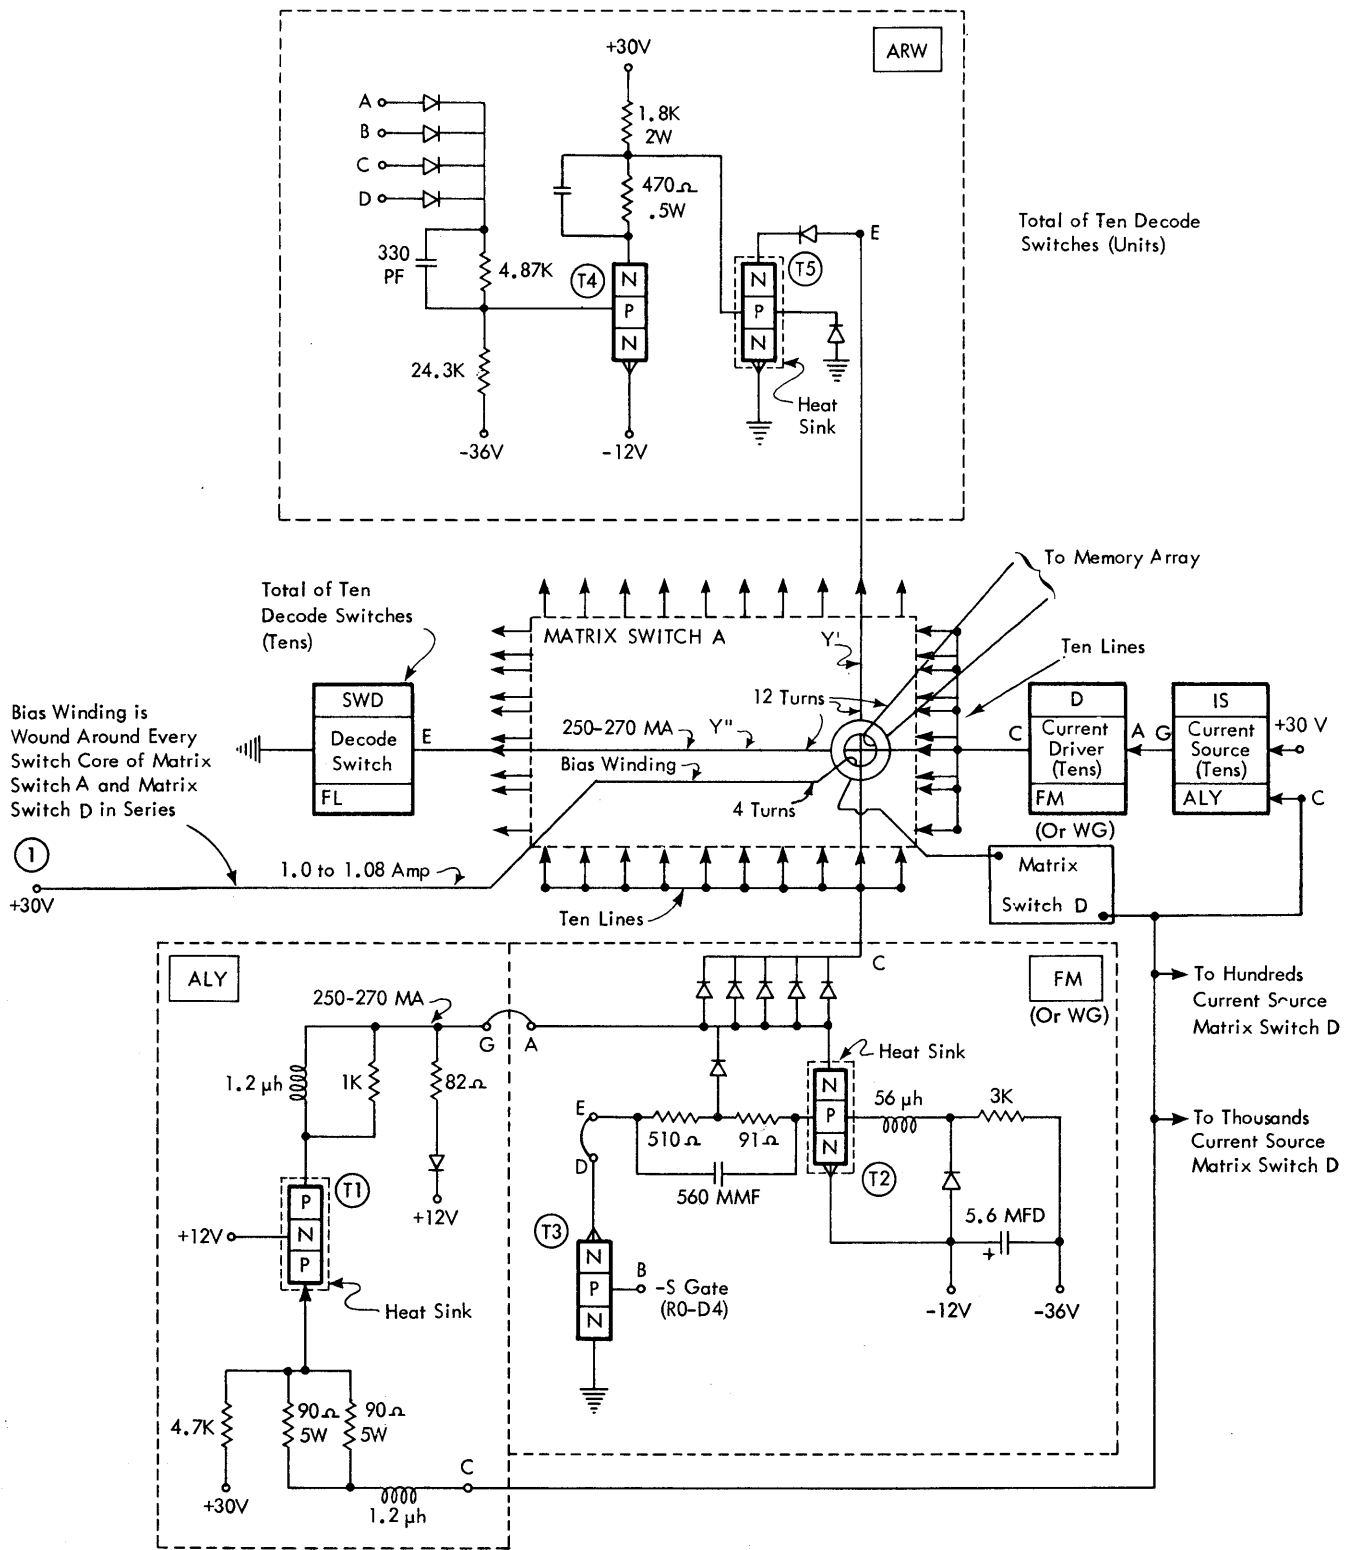

Figure 4-10. Matrix Switch Operation
Starting at +30 v, (1) Figure 4-10 the bias current passes through all switch cores in series to pin C of the current source (ALY) cards. From pin C, the current passes through a noise elimination inductor, two 90Ω 5W resistors in parallel, T1, noise elimination inductor, and resistor in parallel, to pin G of the ALY card. The +30 v through the 4.7K resistor is for level setting. Pin G is wired to pin A of the FM card.